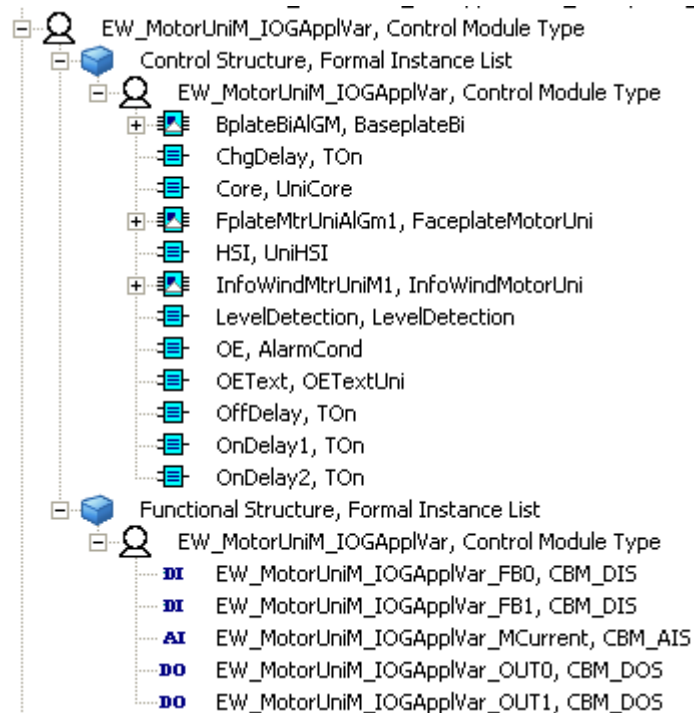

Figure 314. Process Object with its Signal Objects
3. Extend the object type in the Object Type Structure with formal instances of Signal objects in the Functional Structure as shown in Figure 314.